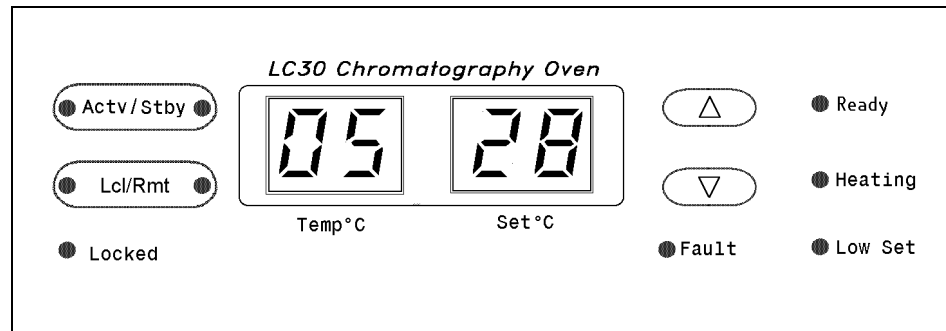

Figure 2-3. LC30 Control Panel
- The control panel contains the temperature readouts, operating buttons, and operating status indicators (see Figure 2-3).